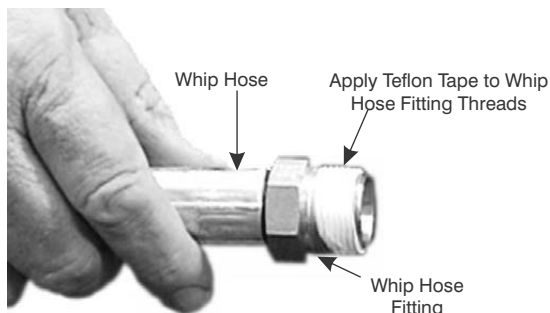

Figure 9-22. Apply Teflon Tape to Hose Fitting.
9. Apply teflon tape to the external threads of the hose fitting at one end of the Whip Hose. See Figure 9-22.